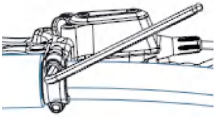

Figure 2-4 Brake lever Installation
- ① Fix the brake lever first.
- ② Tighten one screw to half-tight, then tighten the other screw, and return to the original screw to tighten it (as shown in Figure 2-4).
- ③ ★ The locking torque of the disc brake lever is 60~80kgf-cm (52~69lb-in).
- ④ Hold the disc brake lever with pressure and tighten the retaining screw of the main body of the disc caliper while the disc is being held down by the retaining block.
- ⑤ Check that the brake operates properly and that there is no oil leakage by holding the disc brake lever several times.
- ⑥ ★ Tightening torque of the adaptor screw = 70~90kgf-cm.